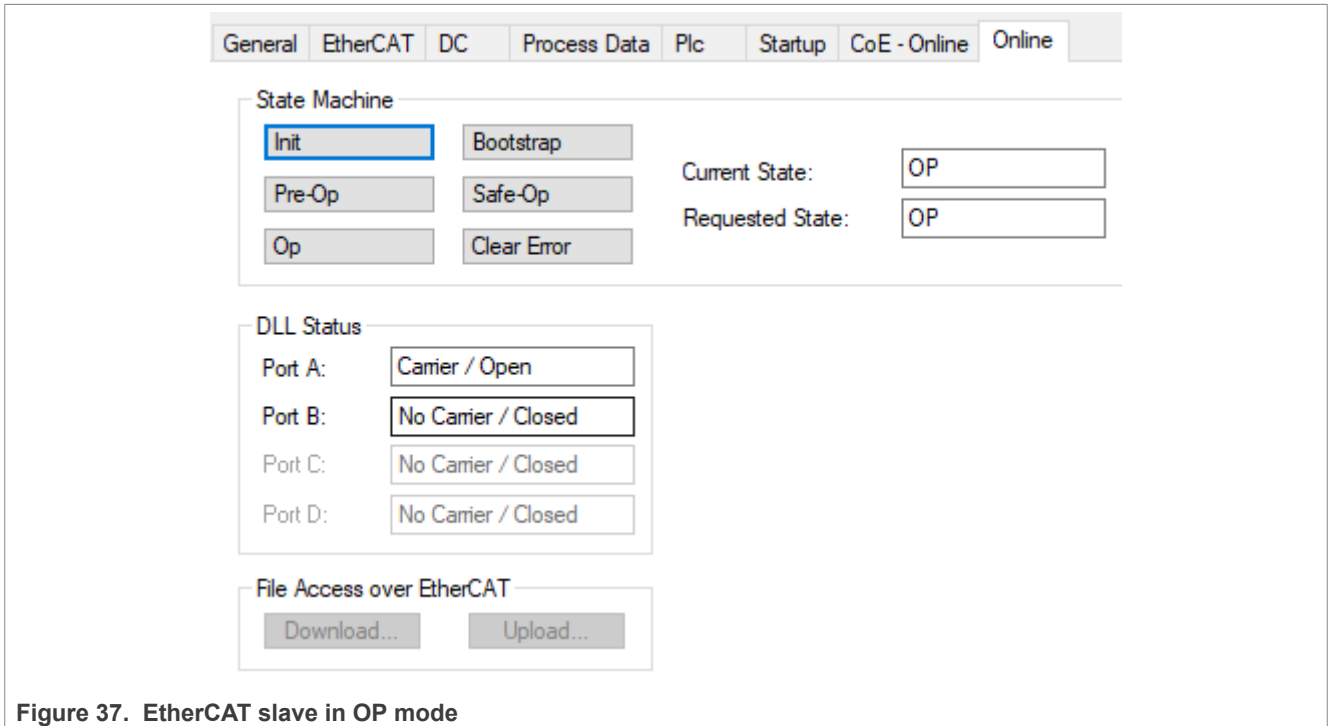

Figure 37. EtherCAT slave in OP mode
5. Make sure EtherCAT slave is in Operation (OP) mode, as shown in Figure 37.